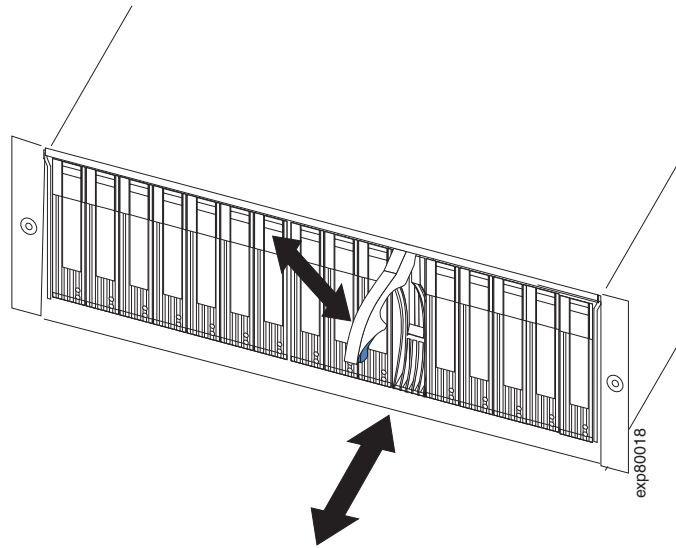

Figure 21. Replacing an EV-DDM
1. Lift up on the handle and gently push the EV-DDM CRU into the empty bay until the hinge of the tray handle latches beneath the storage expansion enclosure bezel, as show in Figure 21 on page 35.